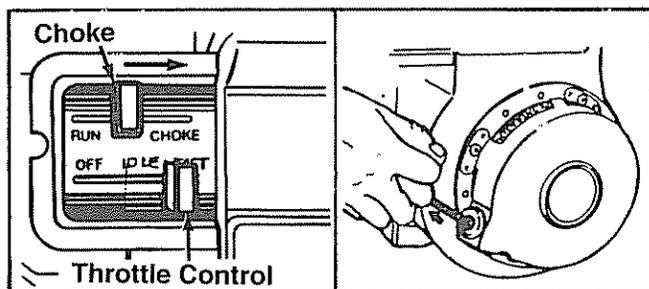

FIGURE 9.
- Place the throttle control lever in FAST position. See figure 9.
- Grasp starter handle (see figure 9) and pull rope out slowly until engine reaches start of compression cycle (rope will pull slightly harder at this point). Let the rope rewind slowly.
**NOTE:** If engine does not fire after three attempts, move choke lever halfway between CHOKE and RUN position and try again. See figure 9.
- Move throttle control lever to STOP position. See figure 9.